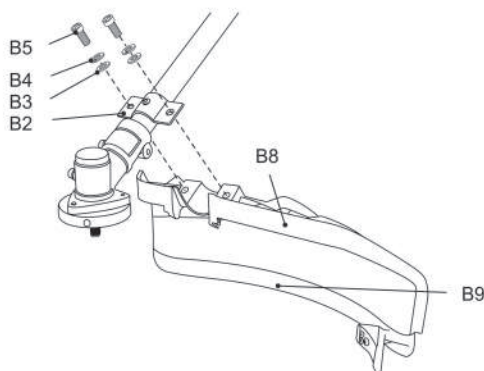

Fig. 4
- 3) Secure the connection with bolts (B5), spring washers (B4) and washers (B3) using the tool (E4). (Fig. 4).